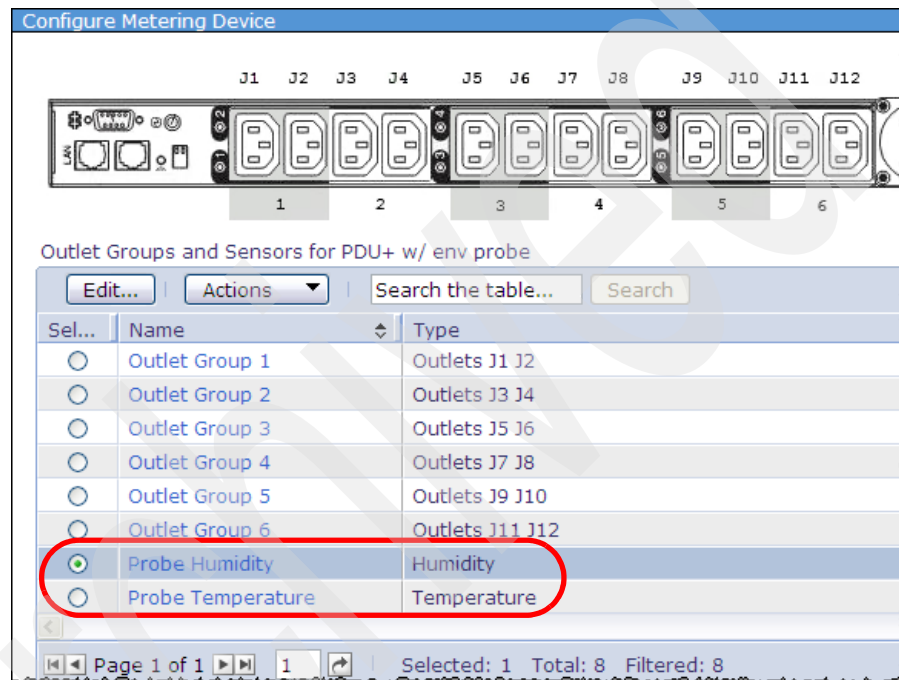

Figure 8-46 Configure Metering Device panel
2. Select the PDU with the probe installed, then select the **Probe Humidity** entry as shown in Figure 8-46, and click **Edit**.